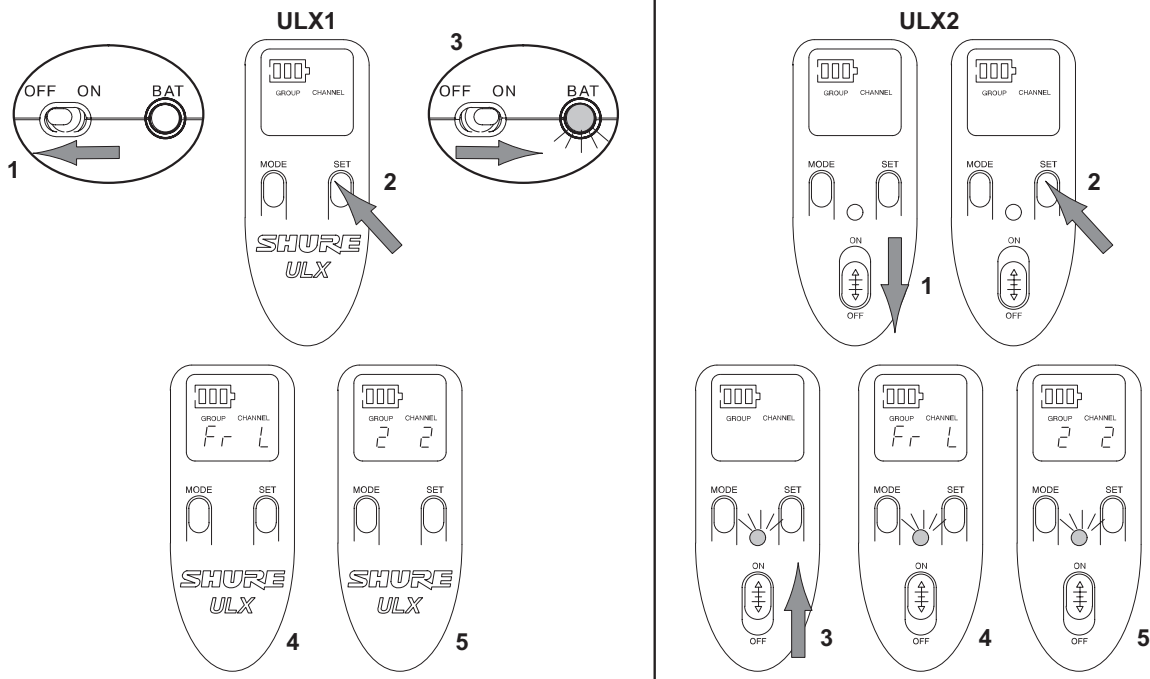

FIGURE 33
1. Refer to Figure 33. Slide the transmitter power switch to the OFF position and wait for the display light to turn off.